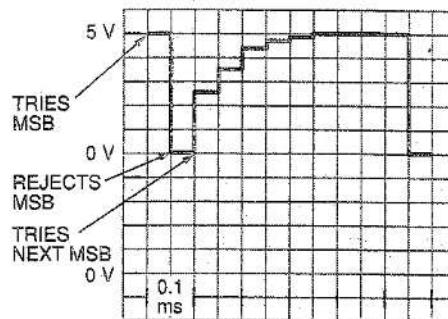

FIGURE 29-2.
8. See Figure 29-2. Eight steps are required to complete a conversion; same as with  $V_{IN}$  of 10 V, 2000 conversions per second.